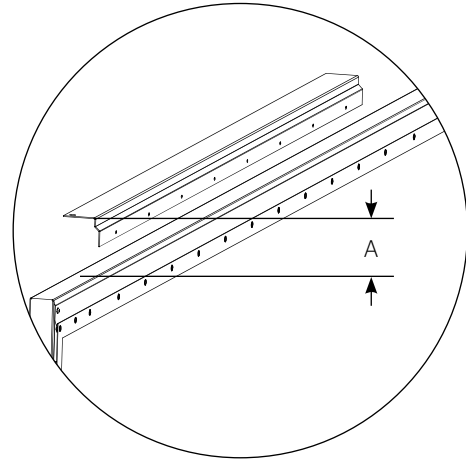

Figure 9
3. Refer to Figure 9 hanger bracket location. Dimension A will vary depending on the type of screen you have. Dimension A is measured from the top of the screen frame to the top of the hanger bracket.